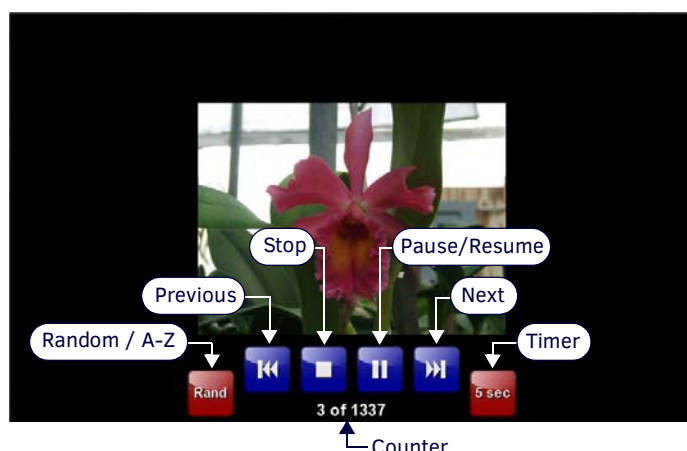

FIG. 3 Picture View configuration popup menu
2. When the images begin to display, touch any place on the touchscreen to open the configuration popup menu (FIG. 3). If no selection is made, this menu will remain in place for 15 seconds and then disappear. It may be accessed again by touching anywhere on the touchscreen.